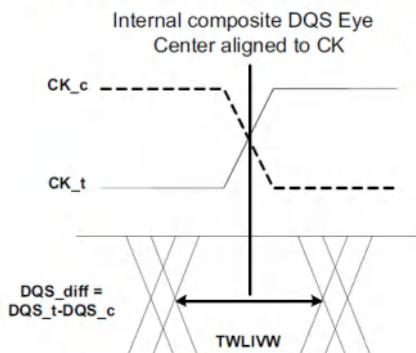

Figure 25. DQS_t/DQS_c to CK_t/CK_c timings at the DRAM pins referenced from the internal latch
- 28) tWLIVW is defined in a similar manner to tDWL_VW_Total, except that here it is a DQS input valid window with respect to CK. This would need to account for all VT (voltage and temperature) drift terms between CK and DQS within the DRAM that affect the write-leveling input valid window. The DQS input mask for timing with respect to CK is shown in Figure 25. The "total" mask (tWLIVW) defines the time the input signal must not encroach in order for the DQS input to be successfully captured by CK with a BER of lower than tbd. The mask is a receiver property and it is not the valid data-eye.